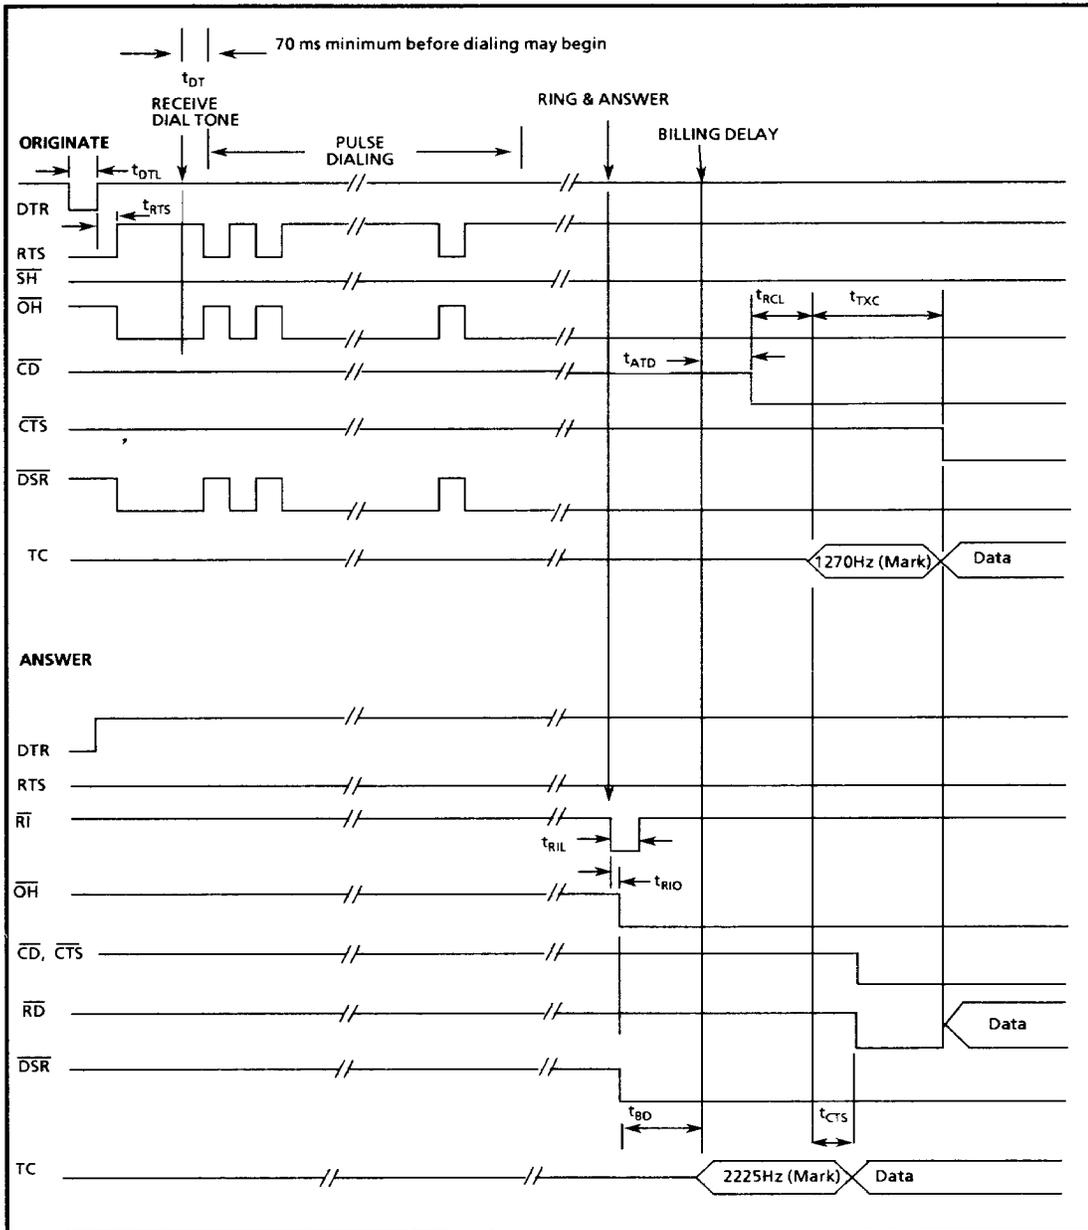

Figure 2 - MT3530 Modem Timing Chart for Bell 103 Operating Mode
**Modem Timing Parameter for CCITT V.21 Operating Mode. See Figures 2 and 4a.**
### Modem Timing† Parameters for Bell 103/CCITT V.21. See Figures 2, 3, 4b & 5.